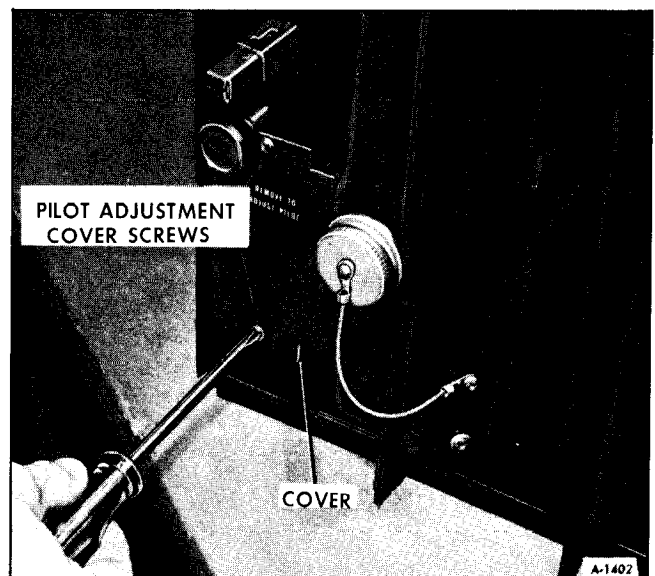

Figure 36—Removing Pilot Adjustment Cover
2. Remove pilot adjustment cover as shown in Figure 36.
4. Install pilot adjustment cover (figure 36).